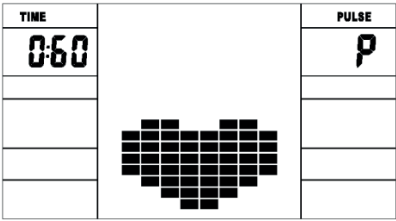

Figure 24
- B. Press the RECOVERY button to start the heart rate recovery test, and the computer will enter stop mode (Fig. 24).